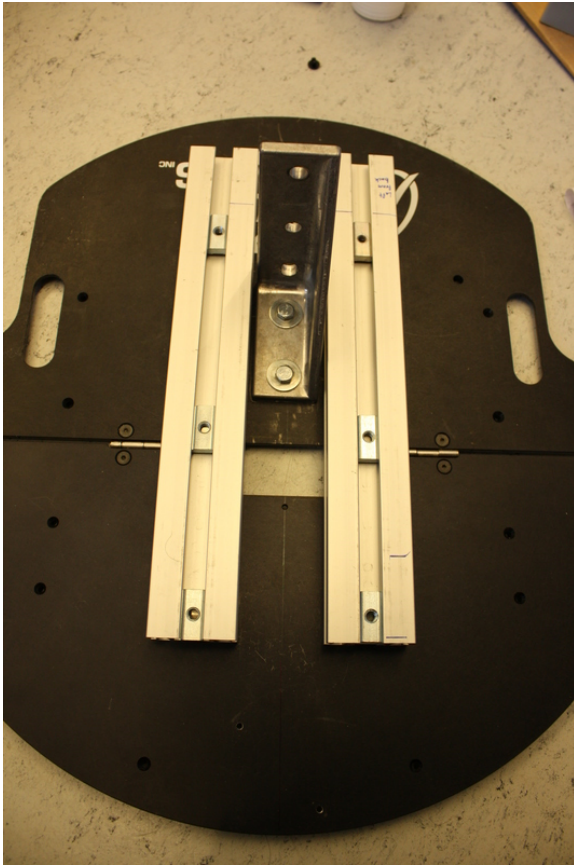

Figure 5: Big bracket between rails
3. Mount the big bracket on the top surface (figures 5 and 6) between the rails, with the shorter side horizontal and the longer side vertical. Use 2 M6x16 **set screws** with 1 penny washer per nut. A normal M6 nut goes on the bottom surface (figures 7 and 8). *Don't tighten the mounting of the bracket yet.*